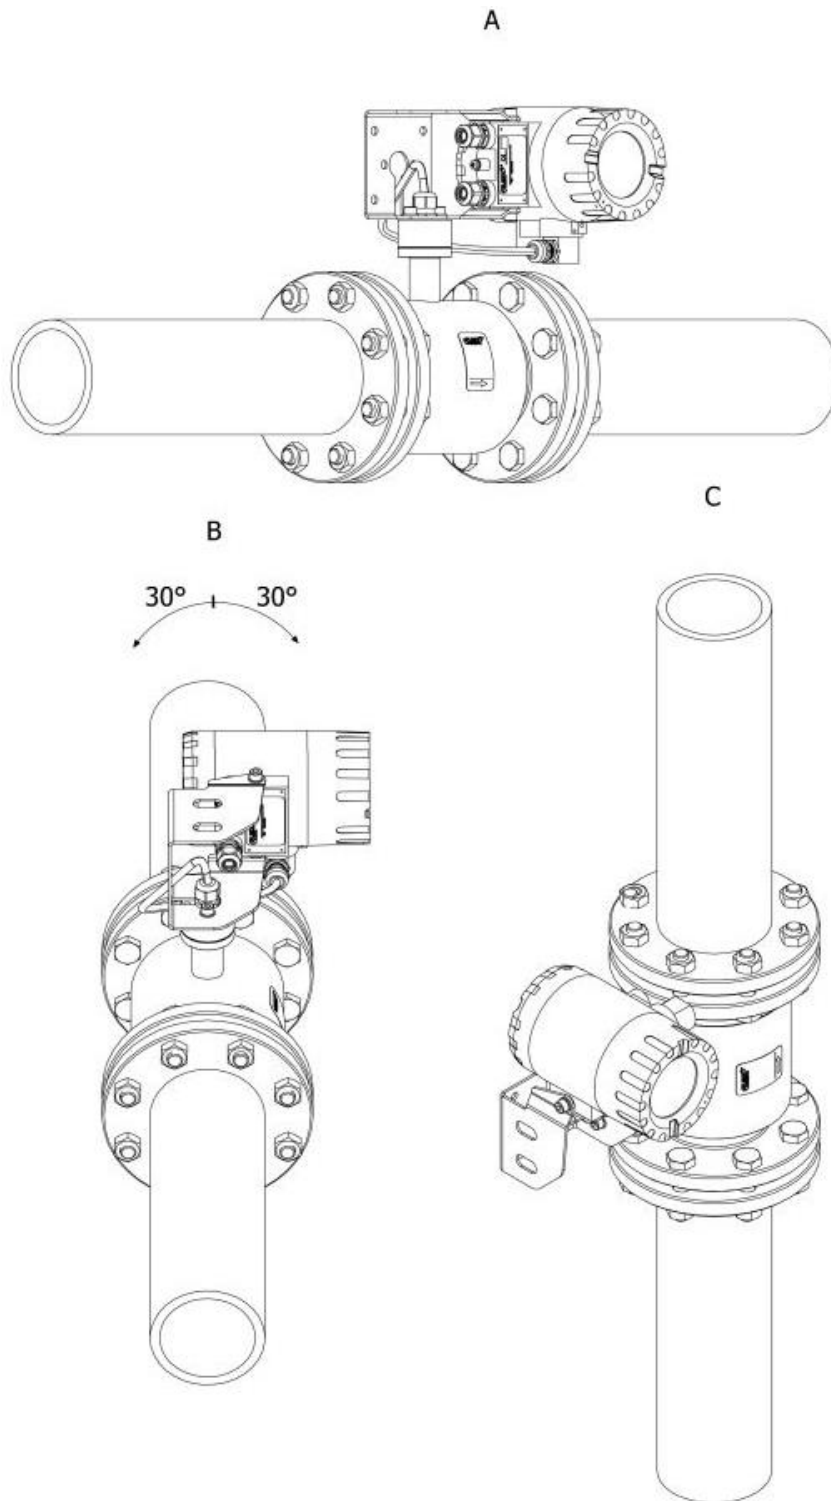

Figure 3. Installation of the PEM-1000 flowmeter - examples.
- it is recommended that the flowmeter is installed so that the electrode axis is as horizontal as possible, in accordance with the examples → **Figure 3**. Installation of the PEM-1000 flowmeter - examples.